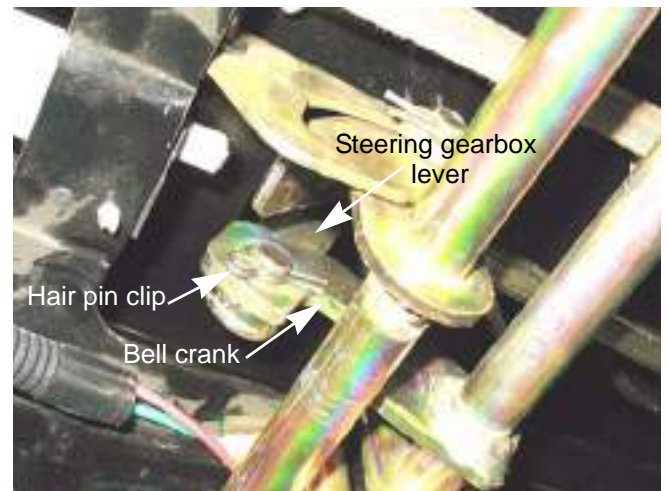

Figure 5B.56
- 4b. Install the hair pin clip. See Figure 5B.56